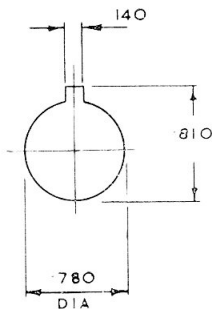

Fig. 6. Panel piercing details
19. All indicators are single hole fixing, panel piercing details are shown in figure 6.